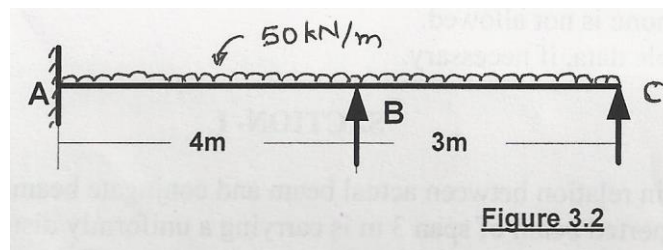

Figure 3.2
b) Analyze the beam loaded and supported as shown in Figure 3.2 if the support 'B' sinks by 5mm. Assume EI constant. Take $E = 200 \text{ GPa}$, $I = 332 \times 10^6 \text{ mm}^4$. Use Three Moment Theorem. (8)